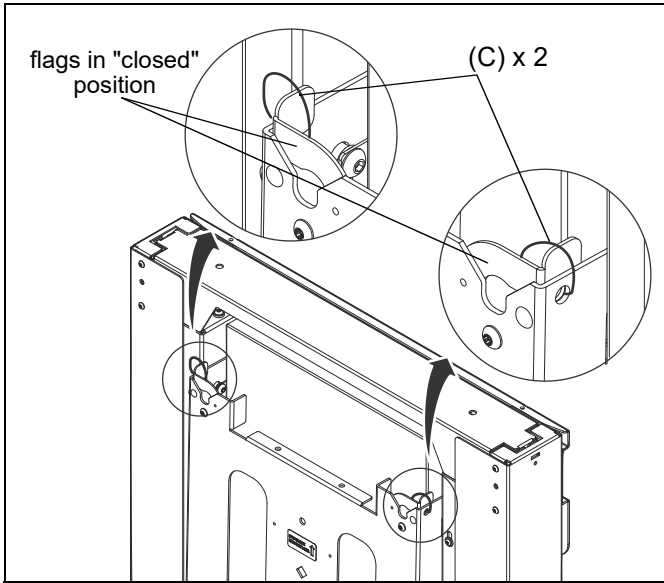

Figure 38
IMPORTANT ! : Manufacturer recommends using cable ties (C) or padlock (not included) to secure the latching flags in closed position on both sides. (See Figure 38)